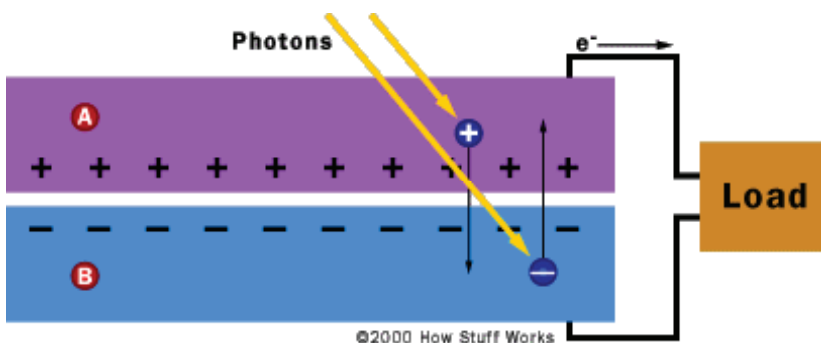

Figure 1
1. Inflate a long balloon and tie it off. The balloon represents the pressure bladder of a spacesuit arm. Let students try to bend the balloon in the middle (see fig. 1).